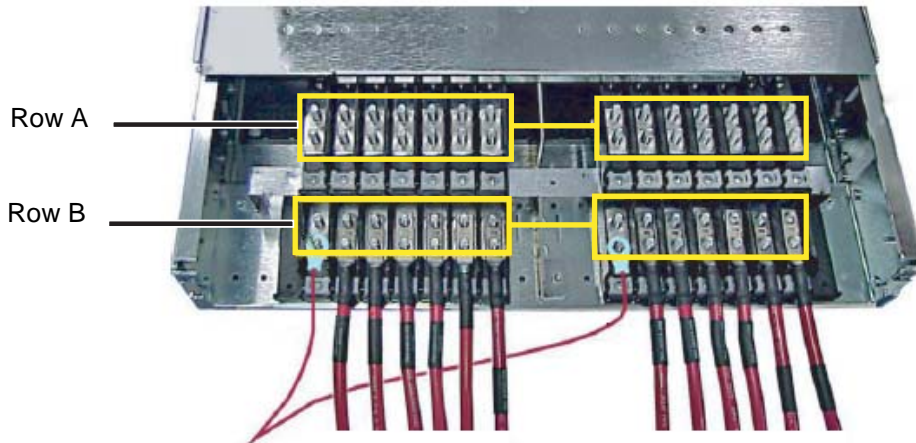

Figure 3-2 Power Connections
4.	Use a level to ensure frame is not leaning. Insert shims between frame base and floor to level frame. Shims should wrap around lag bolts as shown in Figure 3-2
2.	Connect fourteen individual red power cables, one to each input on the upper row of connections. (designated Row A Figure 3-2)